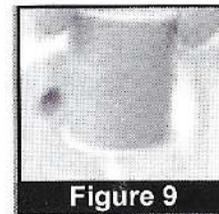

Figure 9
1. Place a spool of thread on the Spool Pin with the thread end facing rear. (Figure 9)